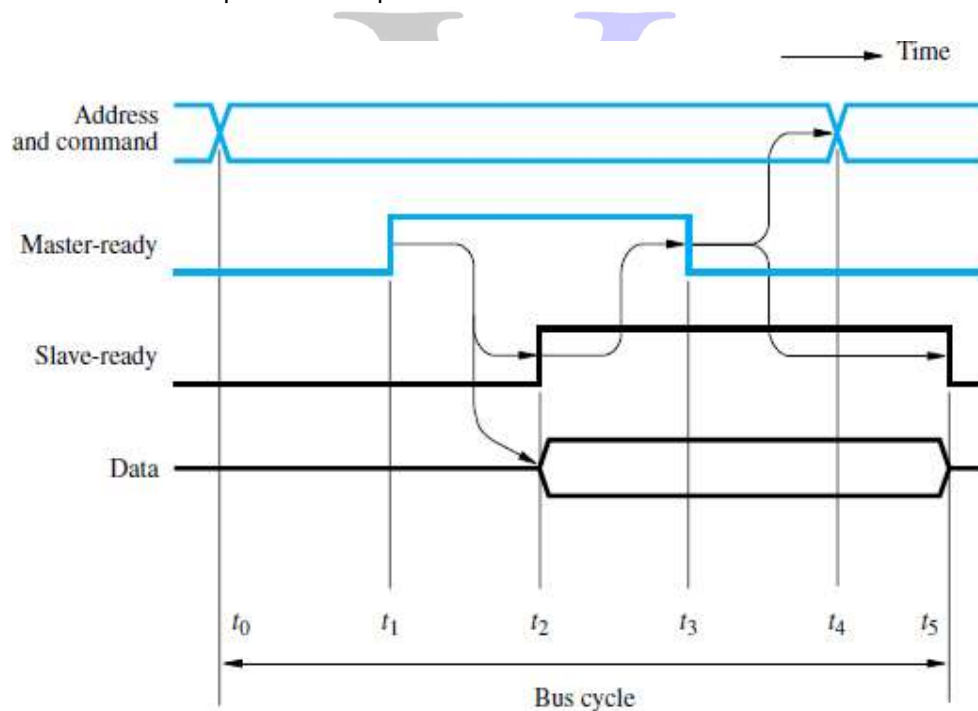

Figure 7.6 Handshake control of data transfer during an input operation.
- sets SR signal to 1 to inform all devices that it is ready (Figure 7.6).